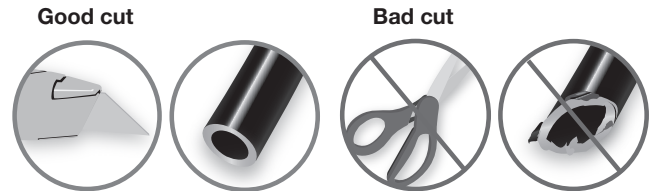

Fig. 14
2. If installing a single-path air line, choose a location for the tee fitting on the wheel well or rear bumper. Determine and cut adequate length of air line (C) to reach to the tee from left and right side air springs. Make clean, square cuts with a razor blade or hose cutter (Fig. 14). Do not use scissors or wire cutters.